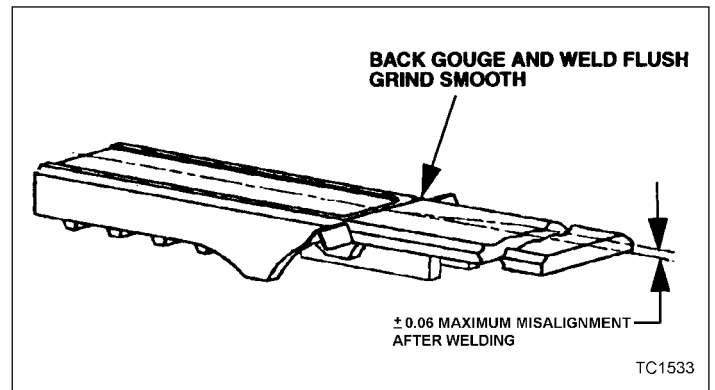
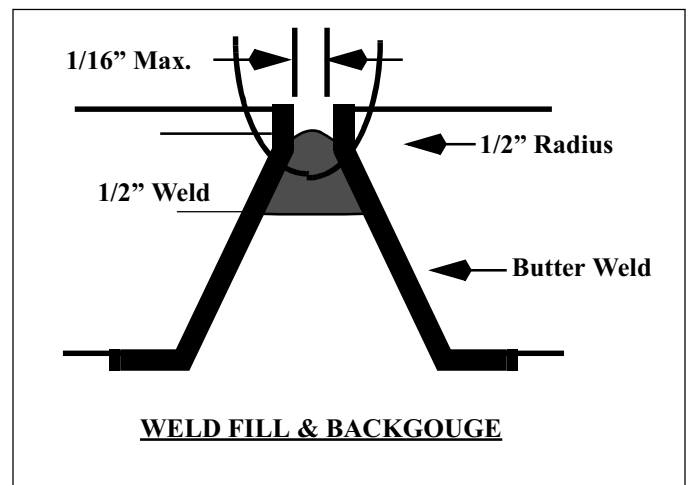

Figure 6-45. Grinding Front Termination Plate
Figure 6-46. Weld Fill and Back Gouge
4. Remove rack with strongbacks and termination plate attached and turn backside up (refer to Figure 6-45). Back gouge and grind to sound metal (Refer to Figure 6-46). Ensure interpass temperature in the rack does not exceed 400° F (204° C). Wait one minute between successive air-arc passes. Ensure the back gouged groove is opened up wide enough for adequate root penetration. Check for cracks by using dye penetrant inspection.